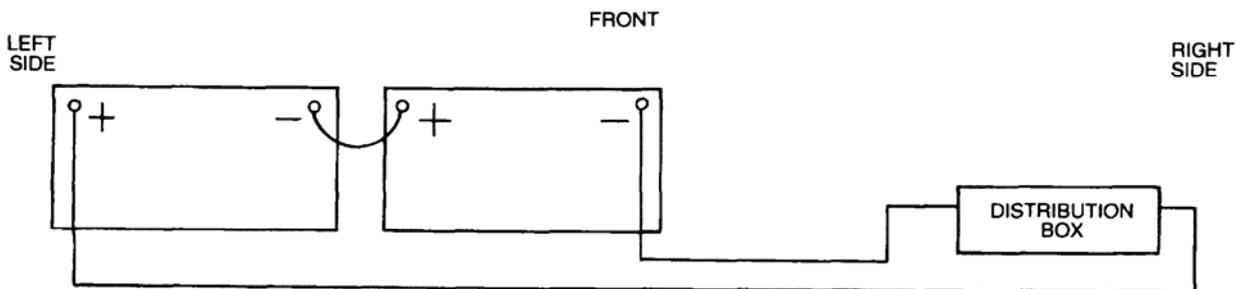

Figure 7 Batteries Installation
- a. Disconnect the batteries, negative terminals first (refer Figure 7).